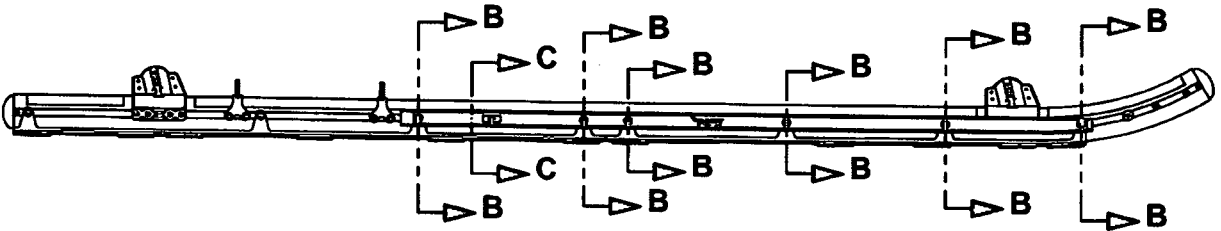

FIGURE 2: D119-646-314 SKIDTUBE PROTECTOR KIT, RH (SHOWN)
- 3.14 Install D5369-2 Cable Guard on the RH side of the aircraft using 6x AN3-50A bolts, 6x D5374-1 Bushings, 6x D3904-1 Washers, 6x MS21042L3 nuts as shown in Figure 2 Section B-B. Torque bolts to 15-25 in-lbs (1.7-2.8 N-m).
- 3.15 Install D5369-1 Cable Guard on the LH side of the aircraft using 6x AN3-50A bolts, 6x D5374-1 Bushings, 6x D3904-1 Washers, 6x MS21042L3 nuts as shown in Figure 2 Section B-B. Torque bolts to 15-25 in-lbs (1.7-2.8 N-m).